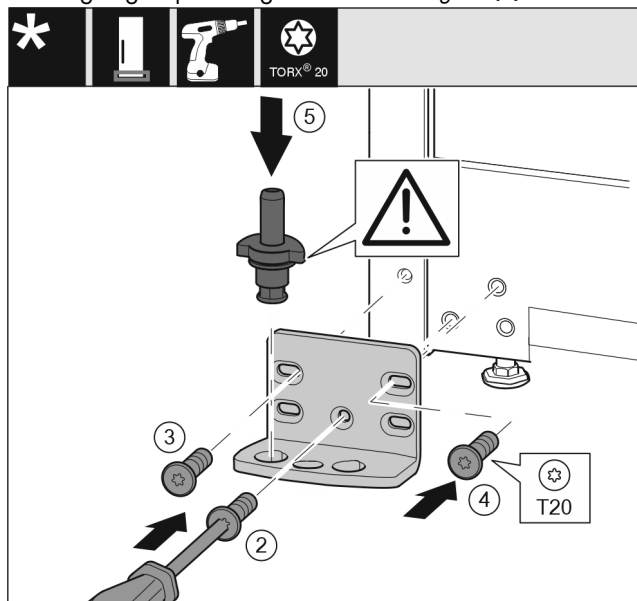

Fig. 14
- Place the bearing bracket on the other side and screw it in using the T20 screwdriver. Start with screw 2 at the bottom in the middle. Fig. 14 (2)
- Screw in screws 3 and 4. Fig. 14 (3,4)
- Insert the bearing pin completely. Make sure that the latching lug is pointing to the rear. Fig. 14 (5)